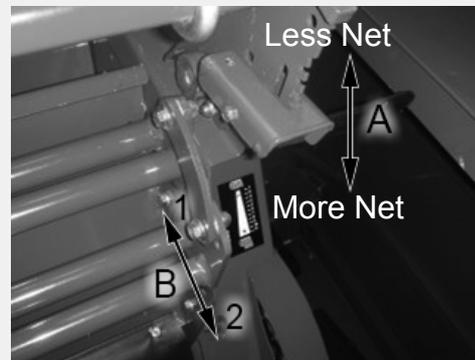

Figure 6.e - Net cutter setting
2. Climb onto the baler platform. Carefully pull upwards on the knife frame bar, see figure 6.d, and while applying upwards pressure on the bar, release the bill hook, by pushing it off the adjuster. Refer to figures 6.b and 6.c.